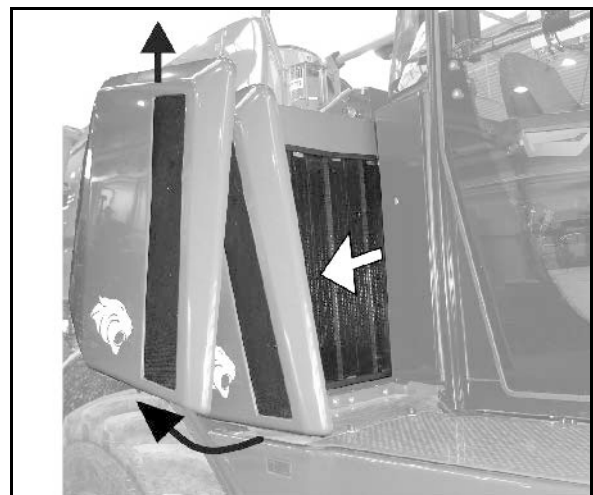

Fig. 170
1. Press the tensioning roller (Fig. 170/1) using a socket (Fig. 170/3) in the direction of the arrow until a $\varnothing 6$ mm retention pin (Fig. 170/4) can be fixed in the assembly bore.
Now the ribbed V-belt (Fig. 170/2) is free of tension.
2. First remove the ribbed V-belt (Fig. 170/2) from the smallest roller or from the tensioning roller.
4. Apply a new ribbed V-belt (Fig. 170/2).
6. Retension the ribbed V-belt using the tensioning rollers and socket (Fig. 170/3). Check if the ribbed V-belt is fitted correctly in its guide.